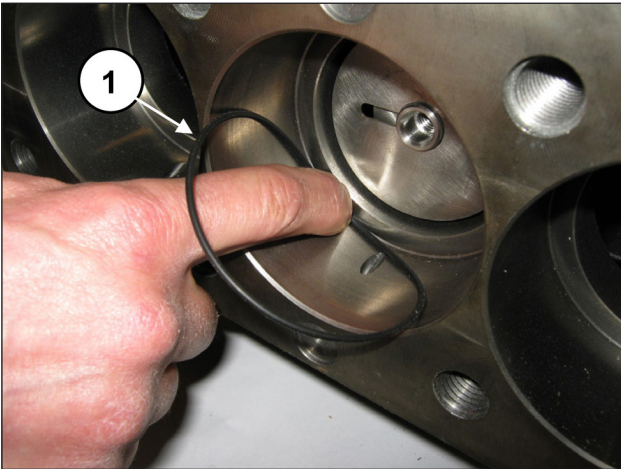

Fig. 176
Remove the seal support bottom O-ring should it remain inside the pump casing (pos. ①, Fig. 176).